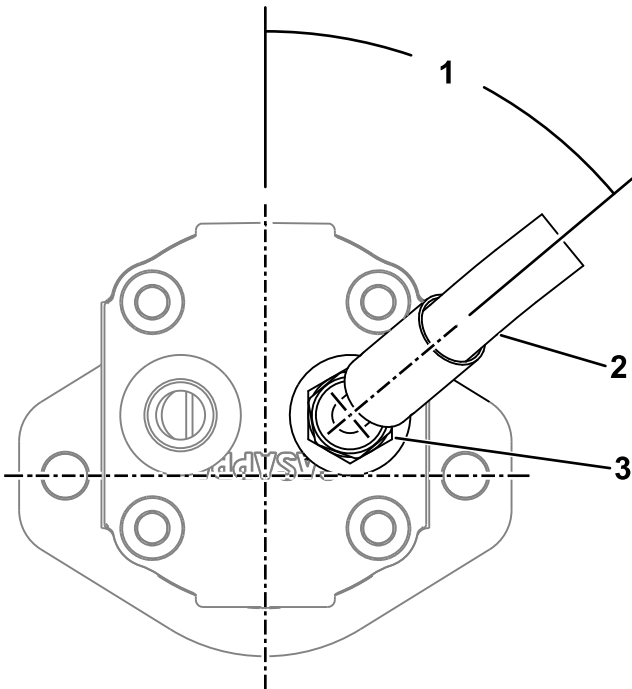
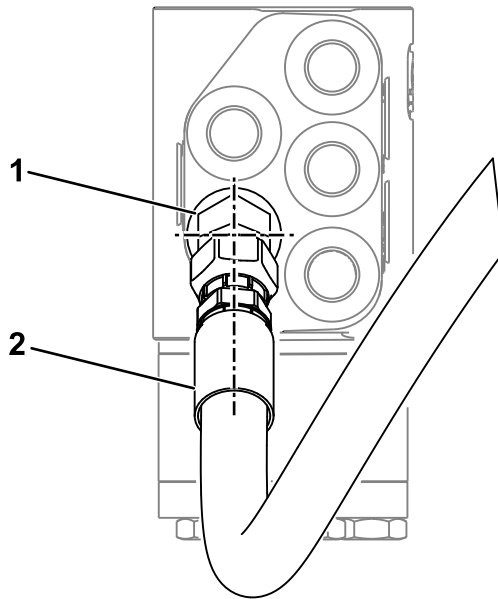

Figure 2
Figure 3
2. Connect the 45° hydraulic-hose fitting to the new straight fitting and orient it at 50° as shown in Figure 2.
4. Connect the straight hydraulic-hose fitting to the new 45° fitting as shown in Figure 3.
6. Ensure that the hose and fittings are aligned as shown in Figure 2 and Figure 3 and that there is no twist in the hose when routed next to the existing hydraulic lines.